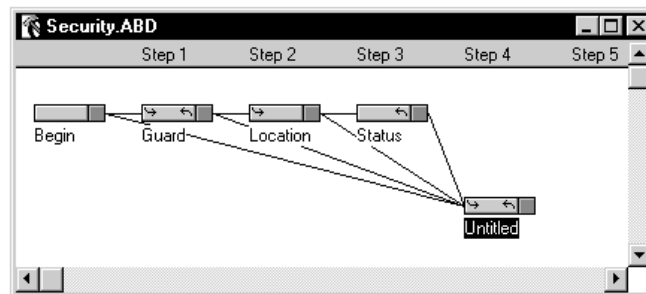

Figure 4-7 New Untitled Input Handler Selected
7. Select the new Untitled Input Handler (Figure 4-7).